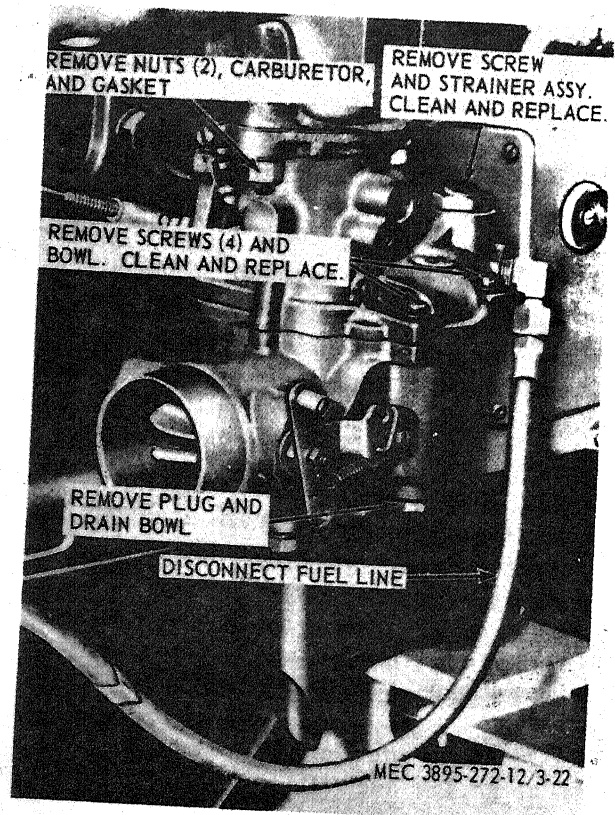

Figure 3-22. Carburetor, removal, installation, and service.
- (1) Disconnect the control linkage from the carburetor.
- (2) Remove air cleaner hose from carburetor.
- (3) Remove the carburetor as instructed on figure 3-22.
- (1) Install the carburetor in reverse of the instructions on figure 3-22. Put in new gasket between flange and mounting pad.
- (2) Connect the control linkage to the carburetor.
- (3) Connect air cleaner hose to carburetor.
- (4) Adjust the carburetor (para 3-9).
- (1) Service the carburetor as instructed on figure 3-22.
- (2) Adjust the carburetor (para 3-9).